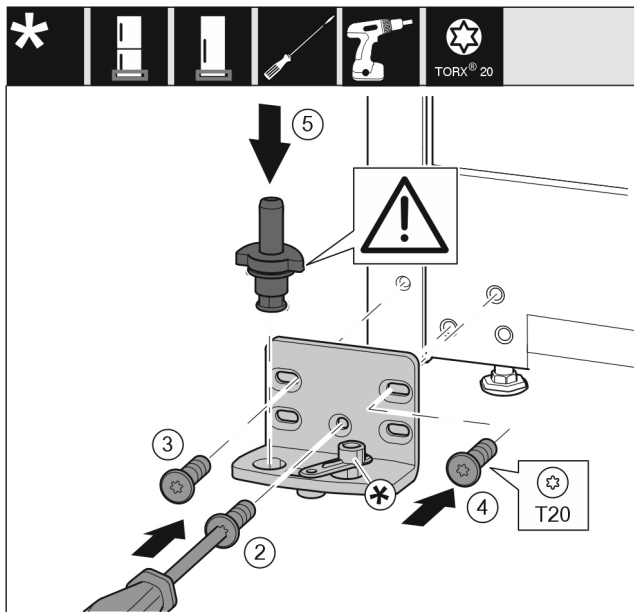

Fig. 34
- ▶ Attach the swap bearing block onto the other side and screw it on using a screwdriver. Start with the screw Fig. 34 (2) at the bottom center.
- ▶ Tighten screw Fig. 34 (3) and screw Fig. 34 (4).
- ▶ Insert the bearing pin Fig. 34 (5) completely. In the process, make sure that the latching cam shows towards the rear.
- ▶ Attach the swap bearing block onto the other side and screw it on using a screwdriver. Start with the screw (2) at the bottom center.
- ▶ Tighten screw (3) and screw (4).
- ▶ Turn the closing damper connection (5) by 180°. On the other side of the swap bearing block, screw it on with the screwdriver.
- ▶ Insert the bearing pin (6) completely. In the process, make sure that the latching cam shows towards the rear.